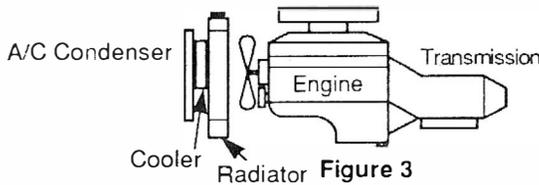

Figure 3
**Location 2.** This location is between the air conditioning condenser and the radiator. This location permits approximately 75% rated cooling efficiency (See Fig. 3).